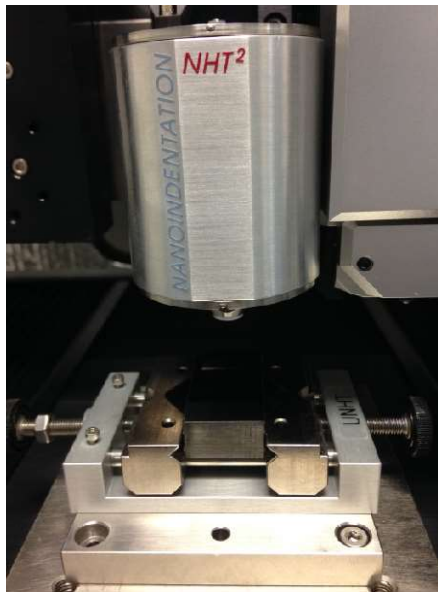

Fig. 11: Diamond-like Carbon (DLC) coating of thickness 2  $\mu\text{m}$  on steel mounted under the NHT head
- 2) Place “DLC-on-steel” sample under the NHT measuring head as shown in Fig. 11